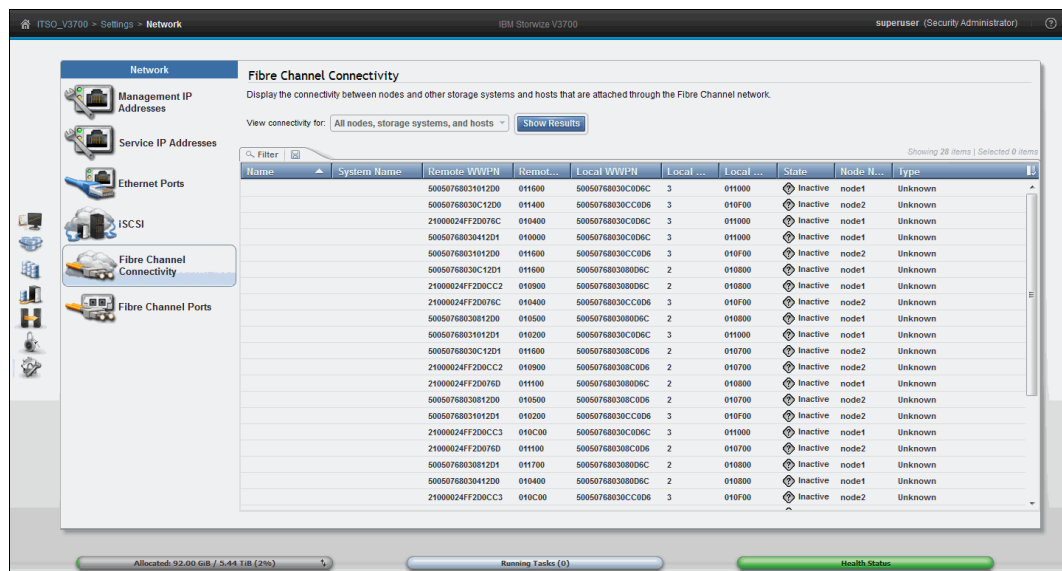

Figure 4-42 Viewing Fibre Channel Connectivity between nodes, storage systems, and hosts
- Choose which connections you want to view and click **Show Results**, as shown in Figure 4-42.